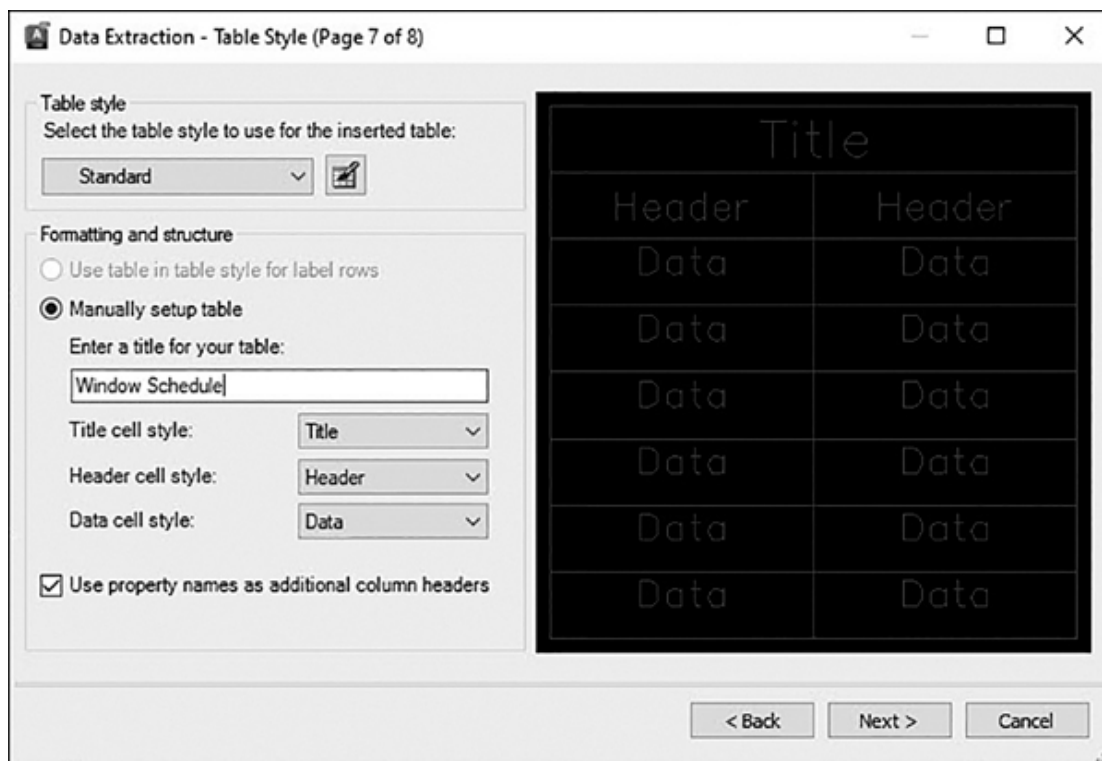
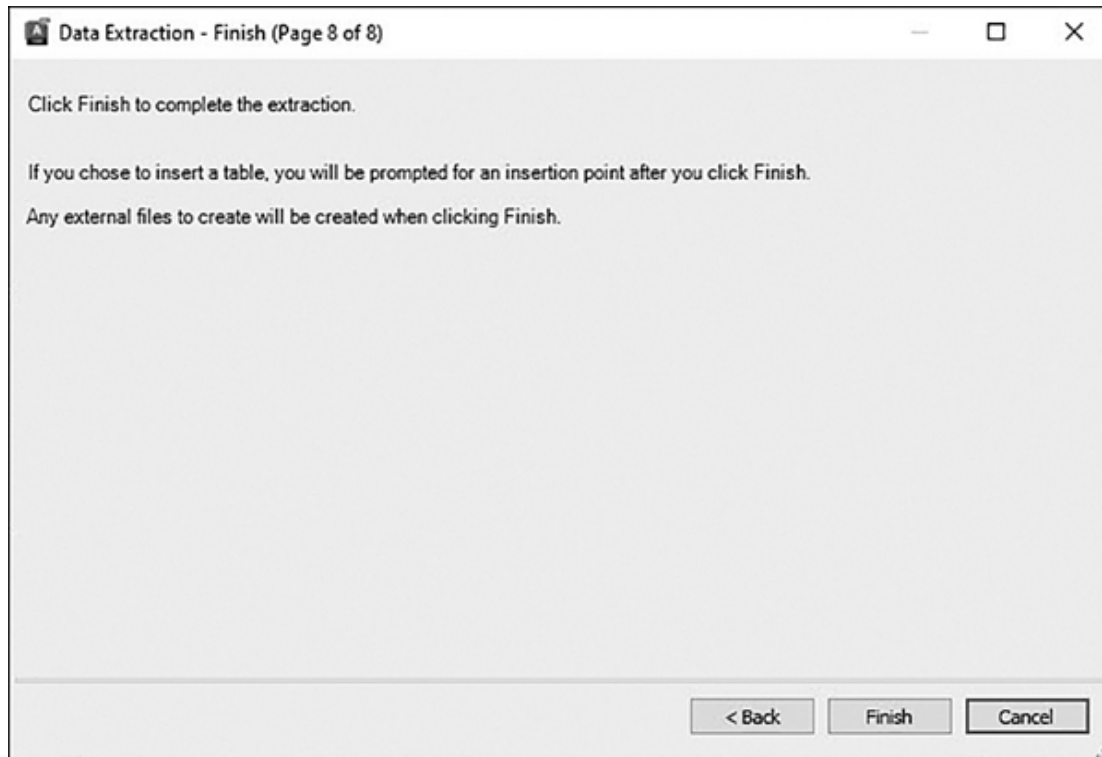

Figure 16-44
Figure 16-45
Select the **Next >** button at the bottom to proceed to either the **Table Style** page shown in Figure 16-44 or, if you didn't select **Insert data extraction table into drawing**, the **Finish** page shown later in Figure 16-45, the **Cancel** button to close the wizard, or the **< Back** button to return to the previous page.
Select the **Next** > button at the bottom to proceed to the **Finish** page shown in Figure 16-45, the **Cancel** button to close the wizard, or the < **Back** button to return to the previous page.
- 2** Use the **Data Extraction** wizard and extract all the block attributes to create the window schedule shown in Figure 16-45 using the AutoCAD table option.